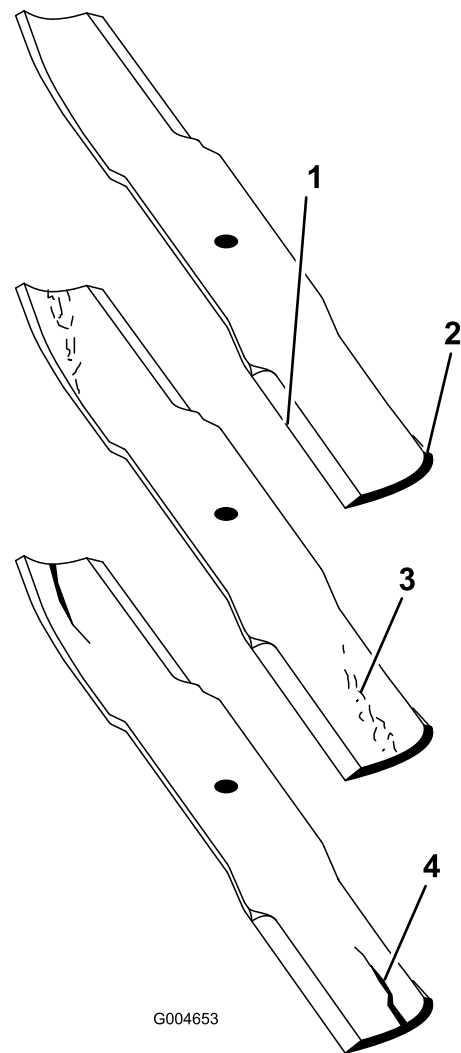

Figure 130
2. Examine the cutting ends of the blade carefully, especially where the flat and curved parts of the blade meet (Figure 130).
Note: Because sand and abrasive material can wear away the metal that connects the flat and curved parts of the blade, check the blade before using the mower. If wear is noticed (Figure 130), replace the blade.